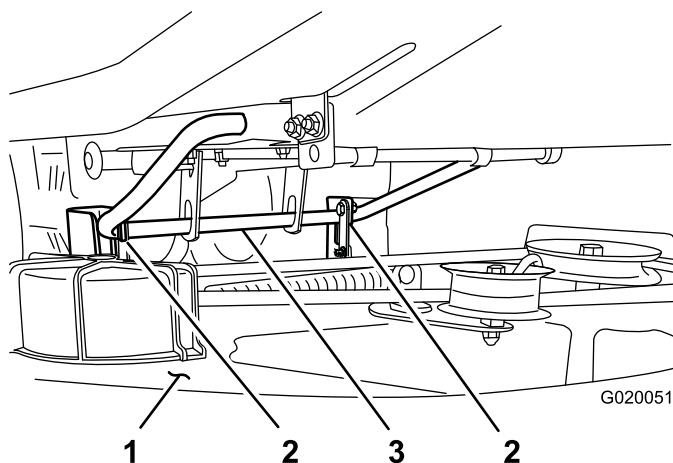
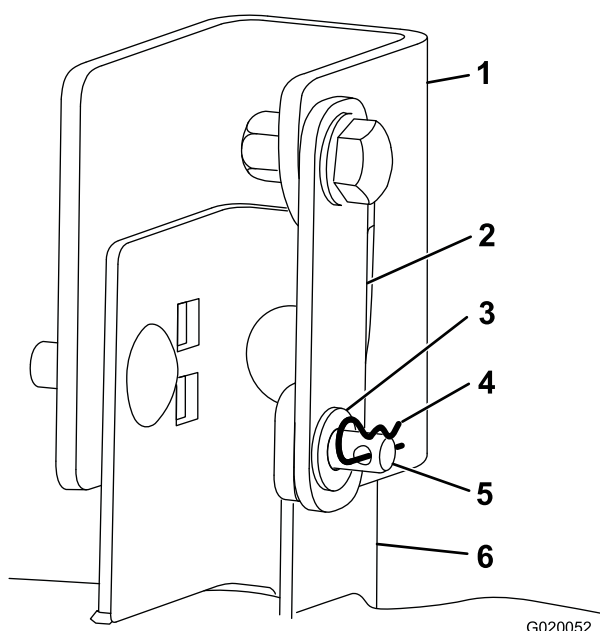

Figure 37
Figure 38
7. Remove the hairpin cotter and washer from the clevis pin in the hanger bracket and deck-support bracket on one side of the mower deck. Repeat for the other side (Figure 37 and Figure 38).
7. Lift the rear of the mower deck, and guide the hanger brackets over the rear lift rod (Figure 37).
8. Swivel each deck-support bracket so that the hole in the loose end aligns with the hole in the hanger bracket (Figure 38).
9. Install the clevis pin through the brackets on each side; then install the washers on the clevis pins and hairpin cottes through the clevis pins (Figure 38).
8. Lift the rear of the deck slightly to take the pressure off of the clevis pins, and remove them (Figure 37 and Figure 38).
9. Lift the mower deck and the hanger brackets clear of the rear lift rod, and lower the rear of the mower deck carefully to the ground (Figure 37).